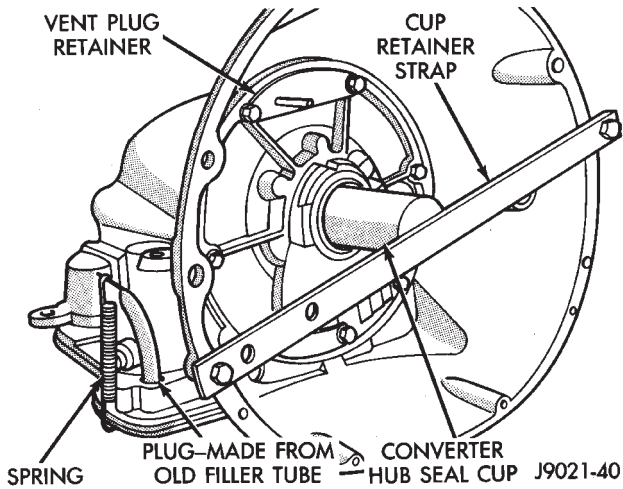

Fig. 15 Vent Plug And Hub Seal Cup Installation
- (1) Install vent plug, converter hub seal cup and cup retaining strap (Fig. 15).
- (2) Close off remaining transmission openings with rubber plugs, or stoppers. **Do not close off rear cooler line fitting. Air pump will be attached to this fitting.**